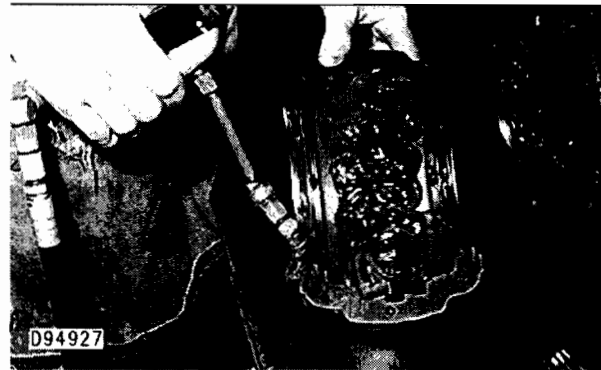

Figure 2
b. Packing – Remove the protective paper from a new bearing. Remove the protective grease coat in a parts washer in rinse with clean solvent. When installing a bearing, use sufficient amount to coat the roller bearing. A similar amount fills the remaining space in a cartridge half (see figure 2). At the time of overhauling the prime mover, open up and check the generator bearings and repack. Replace the bearing, if necessary.